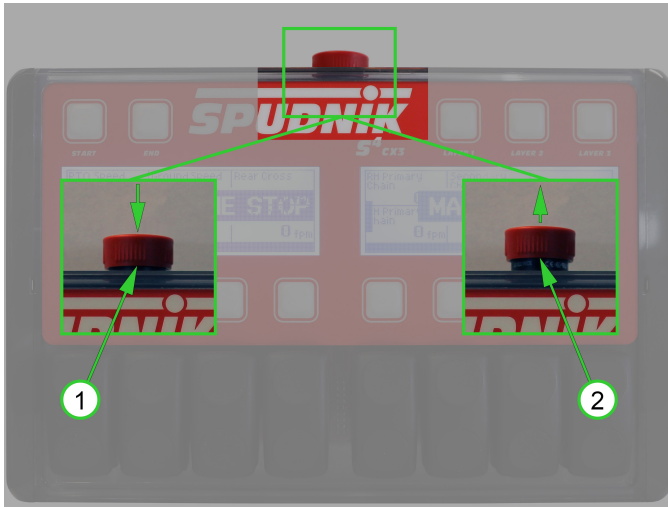

Figure 29
The Machine Stop is a two-position push-button switch. In, the Machine Stop is (1) engaged. Out, the Machine Stop is (2) disengaged. When engaged, the S4 control board receives a signal to turn off all outputs, terminating machine operation. Even though machine operation stops, the control circuits are still energized, and the machine will resume operation when the Machine Stop button is reset. Press the Machine Stop button to shut down the machine and lock out all S4 control board controlled operations. Rotate the Machine Stop button clockwise to release the button lock and enable machine operation. (See Figure 29)